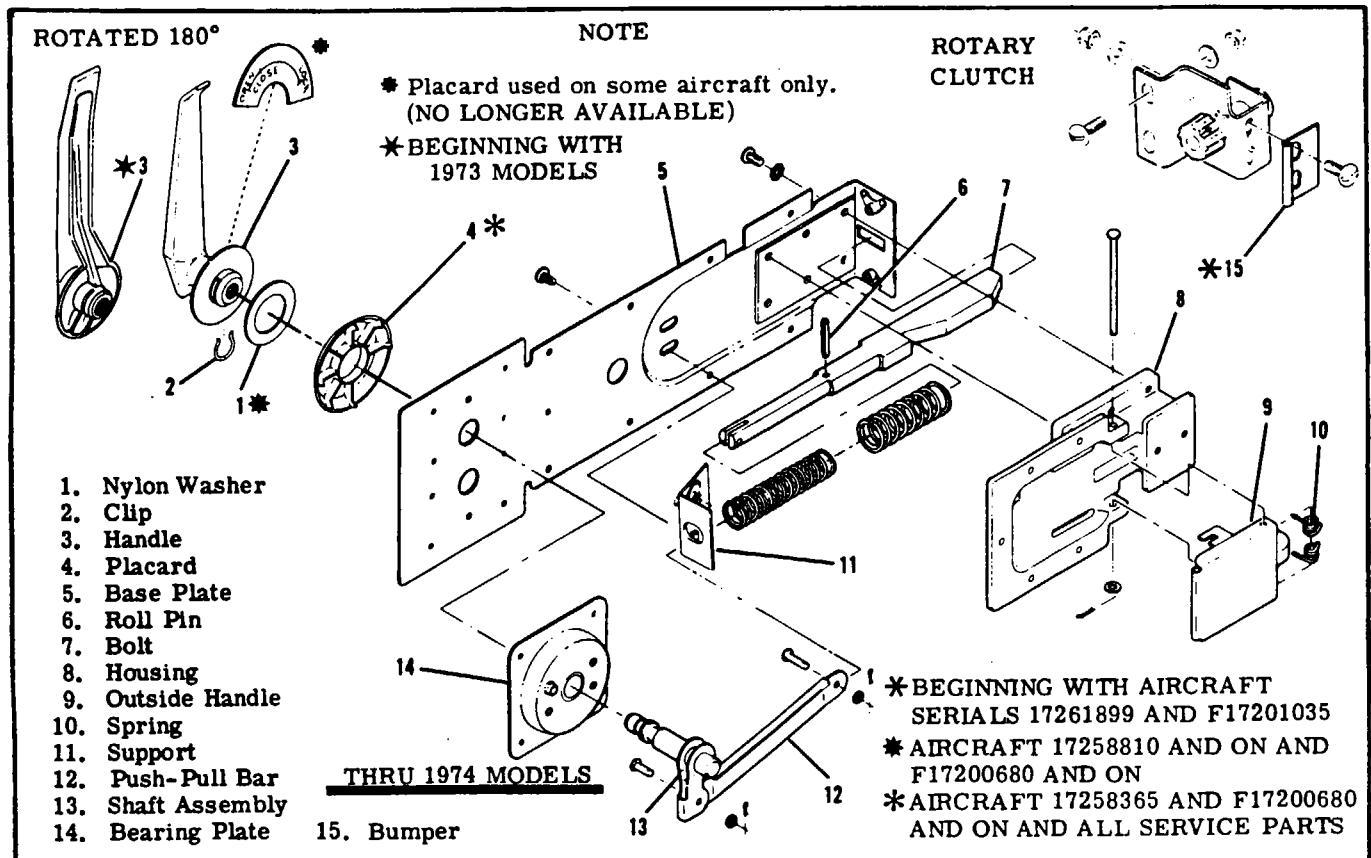

Figure 3-4. Door Latch Installation (Sheet 1 of 2)
3-24. LATCHES. (Refer to figure 3-4.)
3-28. INDEXING INSIDE HANDLE. (Refer to figure 3-4.) When inside door handle is removed, reinstall in relation to position of bolt (7) which is spring-loaded to CLOSE position. The following procedure may be used.
(Refer to figure 3-4, sheet 2.)